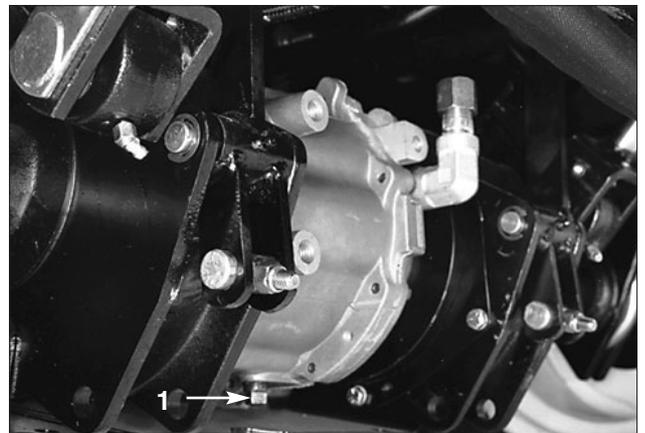

Figure 55
2. Clean the area around the drain plug (Fig. 55).